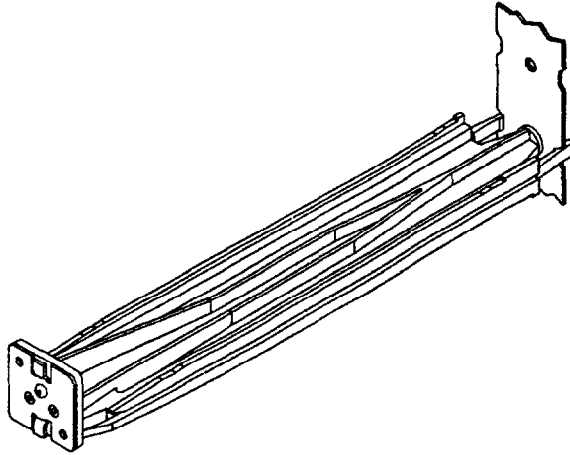

Figure 1-9. Slot Divider Mated With Backplane Bracket
3. Press the slot divider until its retention clips clamp onto the locator bracket as illustrated in figure 1-9.